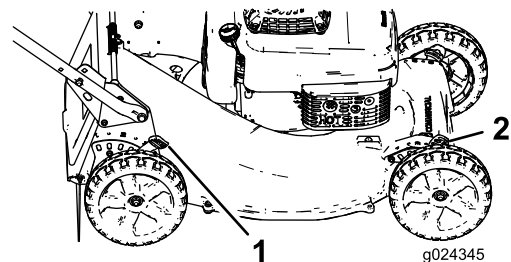

Figure 14
1. Pull the cutting-height lever toward the wheel (Figure 14) and move the lever to the desired setting.